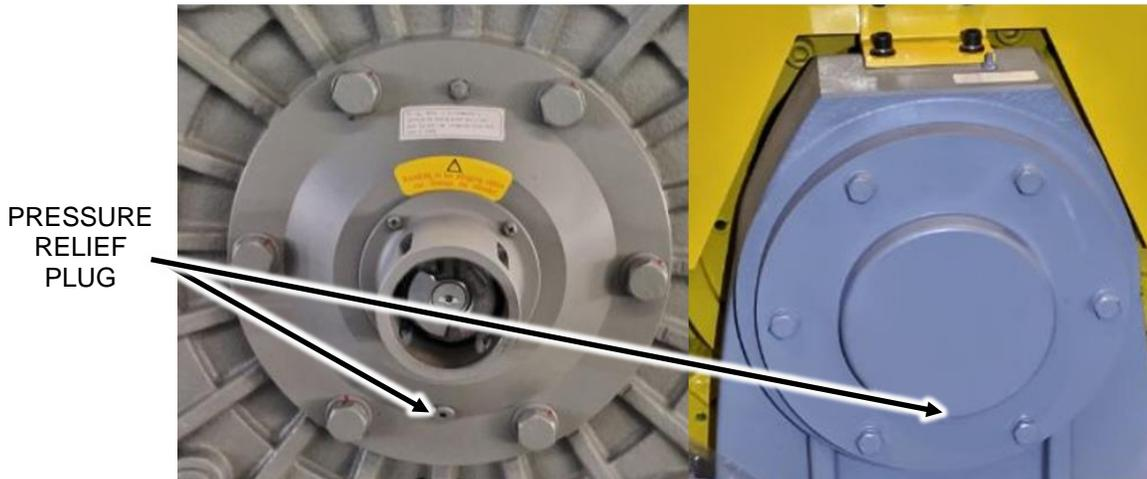

Figure 15
1. To grease bearings, first remove the pressure relief plugs from the outboard stand and the back of the machine. See Figure 15.